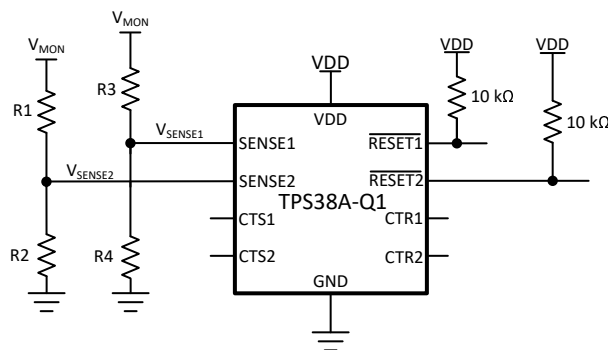

Figure 9-1. Adjustable Voltage Threshold with External Resistor Dividers
For example, consider a 12 V rail being monitored V_{MON} for undervoltage (UV) using channel 1 of the TPS38A010122DSKRQ1 variant. Using Equation 12 and shown in Figure 9-1, R_1 is the top resistor of the resistor divider that is between V_{MON} and V_{SENSE2} , R_2 is the bottom resistor that is between V_{SENSE2} and GND, V_{MON} is the voltage rail that is being monitored and V_{SENSE2} is the input threshold voltage. The monitored UV threshold, denoted as V_{MON-} , where the device will assert a reset signal occurs when $V_{SENSE2} = V_{IT-(UV)}$ or, for this example, $V_{MON-} = 10.8V$ which is 90% from 12 V. Using Equation 12 and assuming $R_2 = 10k\Omega$, R_1 can be calculated shown in Equation 13 where I_{R1} is represented in Equation 14: